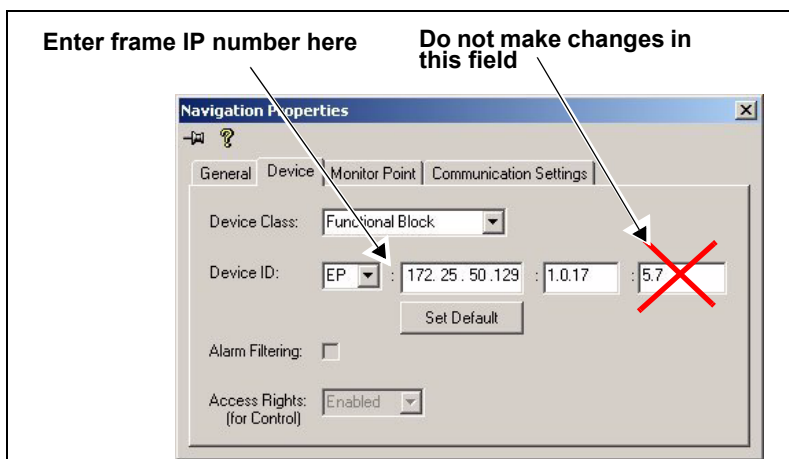

Figure 2-14. Navigation Properties Box
4. On the **Device** tab of the **Navigation Properties** box, enter the IP address of the frame that holds the module in the second field of the **Device ID**. (See Figure 2-14.)